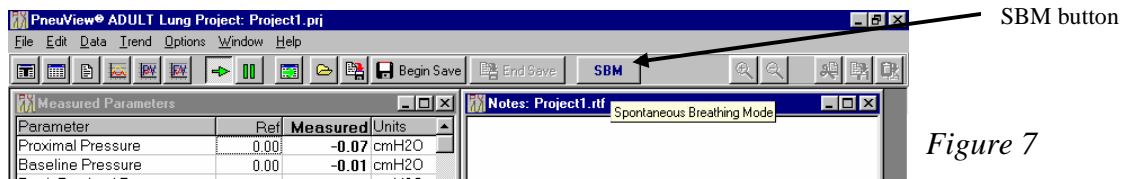

Figure 7
3. To use the Breath Simulation Module with PneuView Software, press the SBM icon found on the toolbar on the “New Projects” screen. (*Figure 7*)